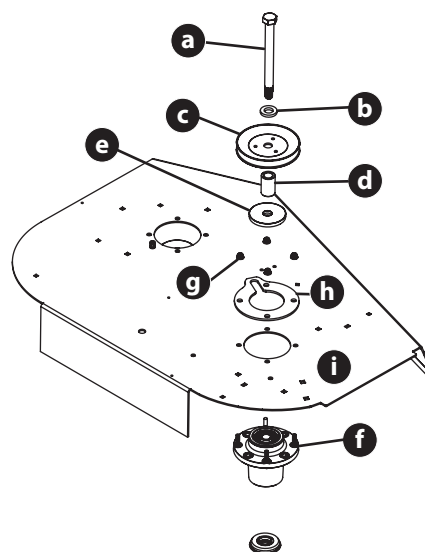

Fig. 49
4. Remove the hex bolt (a), washer (b), pulley (c) spacer (d) and fender washer (e) from the spindle assembly (f) (Fig. 49).
5. Remove the four flange lock nuts (g) and support plate (h) securing the spindle assembly (f) to the deck (i) (Fig. 49).
7. Reverse STEPS 4-5 to install the spindle assembly. When installing the new spindle assembly be sure to install the hardware exactly as shown in Fig. 49 on page 29. Torque the flange lock nuts to 21-32 ft-lbs (28-43 N-m).